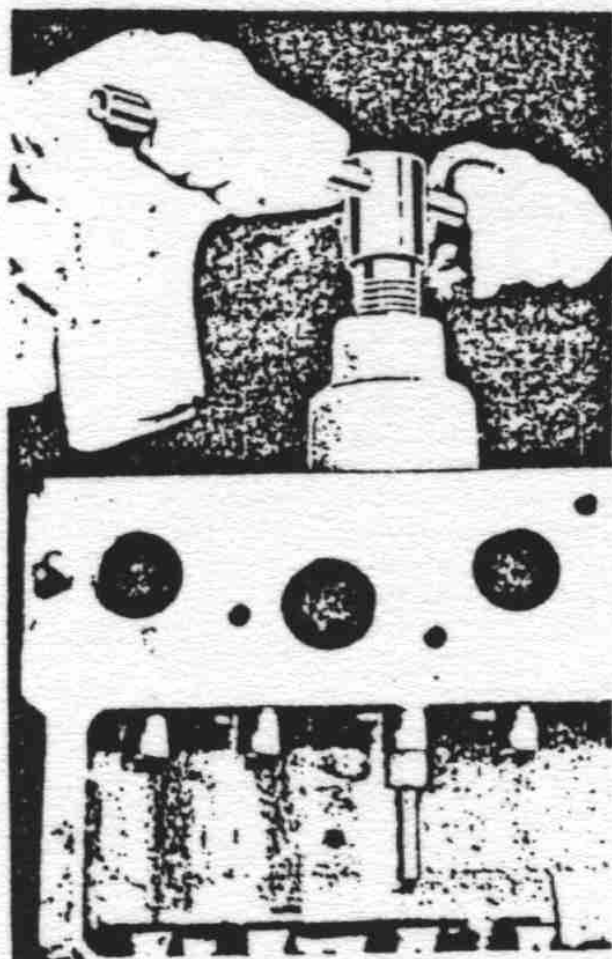

FIG. 19 REMOVING VALVE GUIDES
(1) When removing the valve guides use a valve guide puller to prevent damage to cylinder block. See (Fig. 19). If a regular puller is not available, a suitable tool can be made from a 2" pipe, 6" long and a $\frac{3}{8}$ " bolt 10" to 12" long with a long threaded end, a small hexagon nut which will pass through the hole in the cylinder block and a 2" washer with a $\frac{3}{8}$ " hole in it.